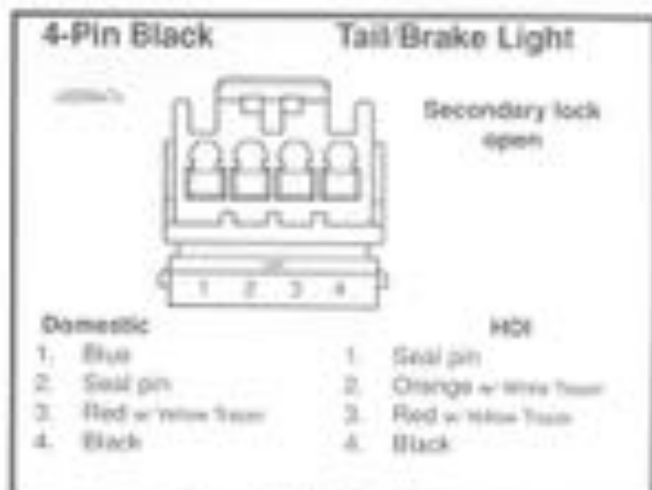

Figure 2-93. Amp Connector
- Fit rear wire seal into back of socket housing, if removed. Gently push sockets through holes in wire seal into their respective numbered chambers. See Figure 2-93 for wire color locations. Feed socket into chamber until it snaps in place. Slightly tug wire to verify that socket will